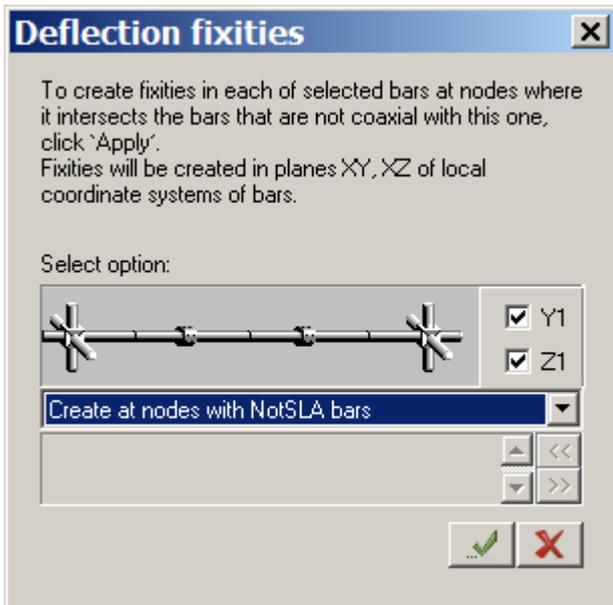

Figure 4.33 **Deflection fixities** dialog box
- ⇒ In the **Deflection fixities** dialog box (see Fig.4.33), select **Create at nodes with NotSLA bars** option in the list. Then select Y1 and Z1 check boxes.